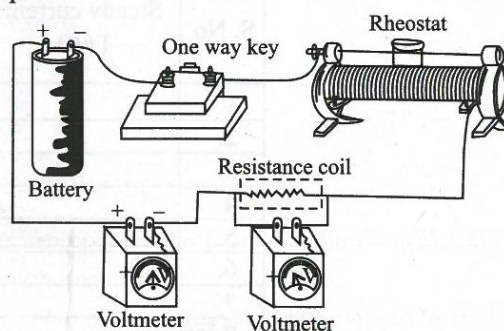

Fig. 4.2 : Arrangement Diagram
- (i) Connect the items as shown in Fig. 4.2